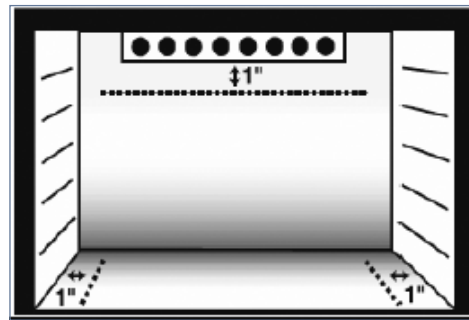

Figure 2
- Load contents must be placed in compartment to allow for adequate air circulation (See figure 2 for guidelines).
Open heating compartment door(s) and place the articles to be heated in the chamber (see figure 2); and then close the door(s).